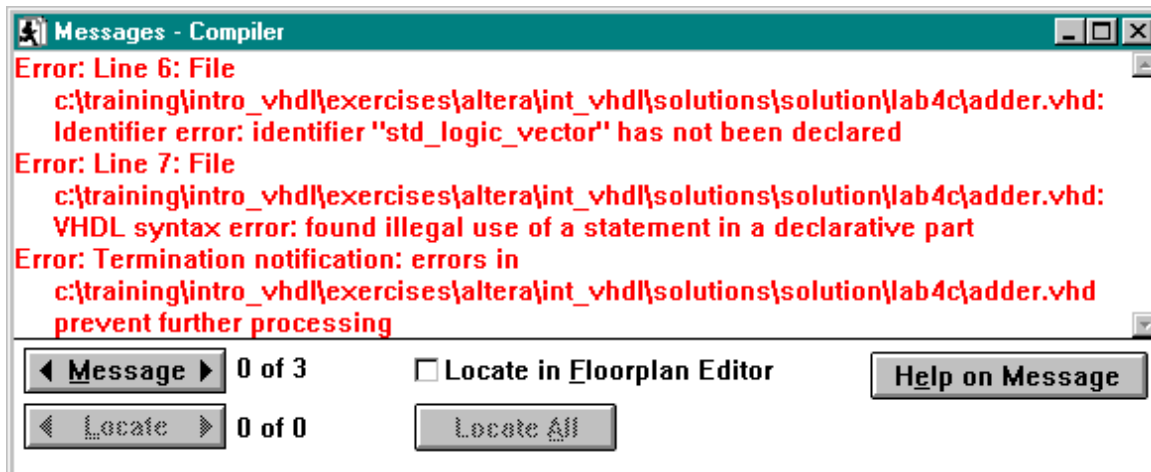

Figure 1-3.
3. You should get the following error message shown in Figure 1-3.